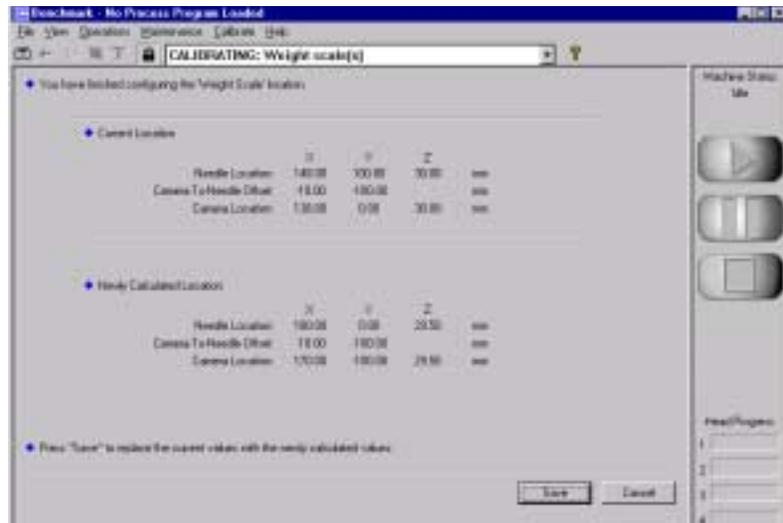

Figure 7
9. Select the **Next**> button after the desired settings for the Weight Scale are reached. Figure 7 appears.